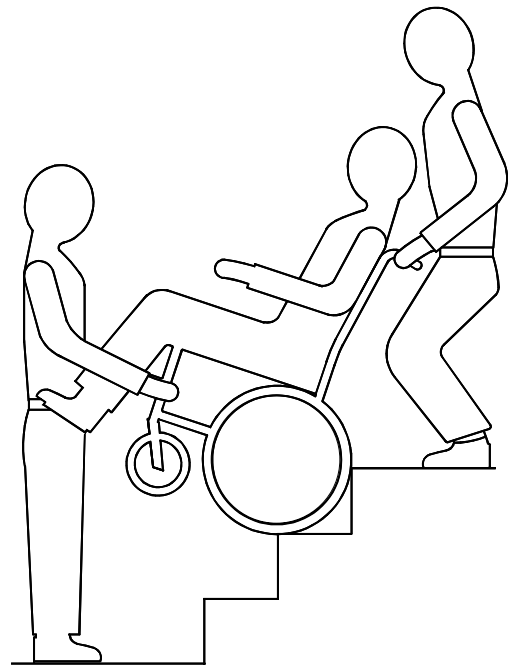

Fig. 13
1. Move the chair and rider forward down the stairs (Fig. 13).